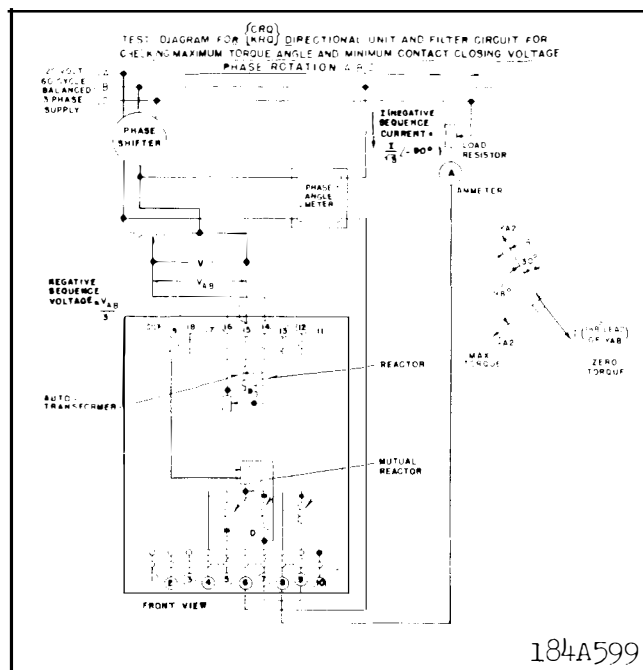

Fig. 7. Test Diagram for Checking Maximum-Torque Angle and Minimum Voltage for Contact Closure of Directional Unit.
2. Sensitivity - Refer to the test diagram in fig. 7. Apply a single-phase voltage V_{AB} equal to 0.57 volts (corresponds to a negative-sequence input voltage of .19 volts) and a single-phase current equal to 6.93 amperes as shown (corresponds to a negative sequence input current of 4 amperes). With a phase angle meter connected as shown, rotate the phase shifter until the current leads the voltage by 188° . This corresponds to the negative sequence component of current leading the negative sequence component of voltage by 98° . The directional unit contact should pick up within $\pm 10\%$ of the above input voltage to the relay. The above quantities are determined as follows: